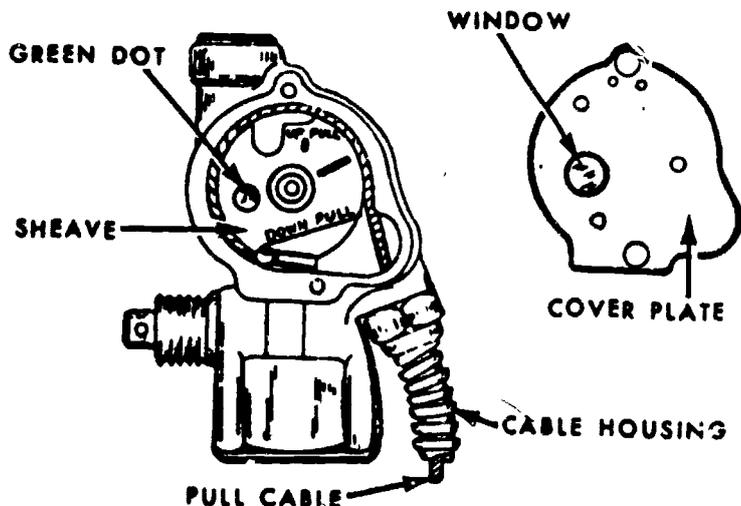

Figure 6.
- 1. Note figure 6. Slide the pull cable through the pull cable housing and wrap it around the sheave, engaging the ball in the recess of the sheave for the DOWN PULL position.